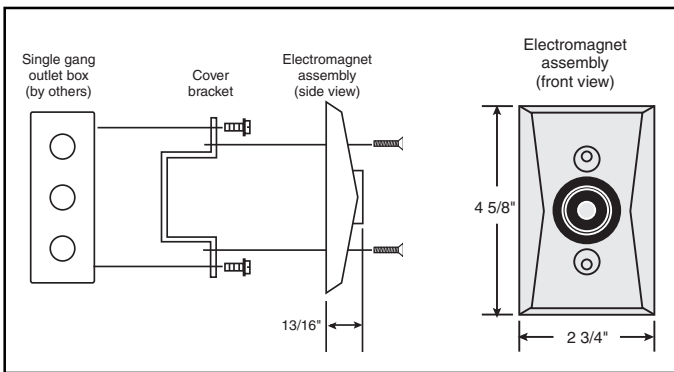

Figure 3. Mounting the Electromagnet Assembly
- Install the cover bracket in the outlet box with the field wiring below the bracket (Figure 3).
- Secure the electromagnet assembly to the cover bracket with the two #10-32 X 7/8" screws provided (Figure 3).